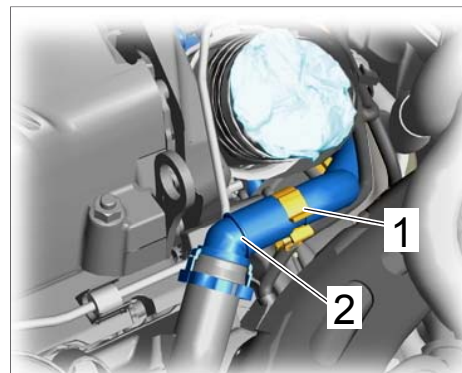

Figure 8
- 5.2 Unclip wire clip ⇒ *Figure 8 -item 1-* on the positive crankcase ventilation line ⇒ *Figure 8 -item 2-*.
- 5.3 Release positive crankcase ventilation line ⇒ *Figure 8 -item 2-* at the cylinder head cover, pull it off and set it aside.